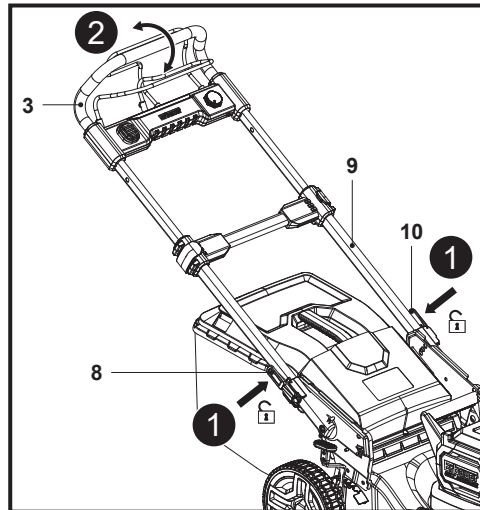

Fig. 10
1. Squeeze and disengage the two lock levers (10) on both sides of the lower handle bar (9) (Fig.10, step 1).
2. Hold the two lock levers (10) in position, then grasp the grip handle (3) and swing the handle assembly gently (Fig. 10, step 2) until the lock pin (10a) of the lock lever (10) automatically engages in one of the other two holes (11a) of the handle support (11).